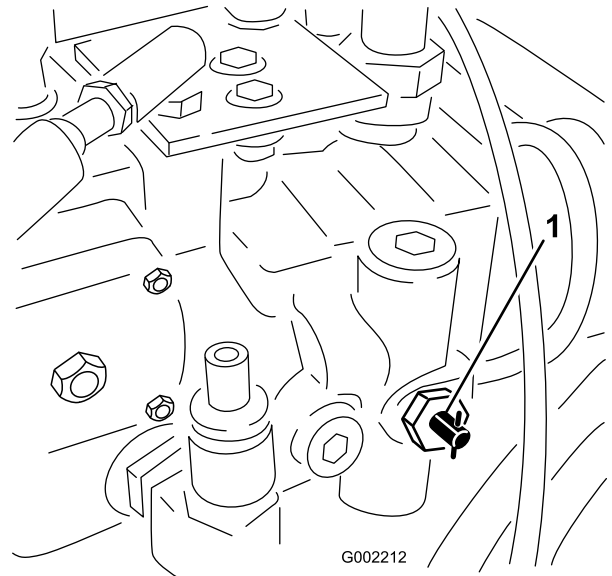

Figure 52
1. Rotate the tow valve (Figure 52) 90° in either direction to open it.